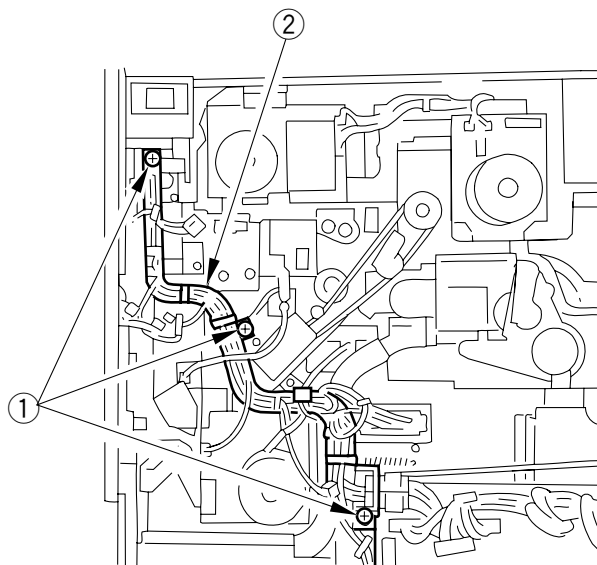

Figure 7-446
- 7) Free the harness guide 1. (See Figure 7-446.)
- 9) Remove the two mounting screws ①, and remove the deck relay drive assembly ②.